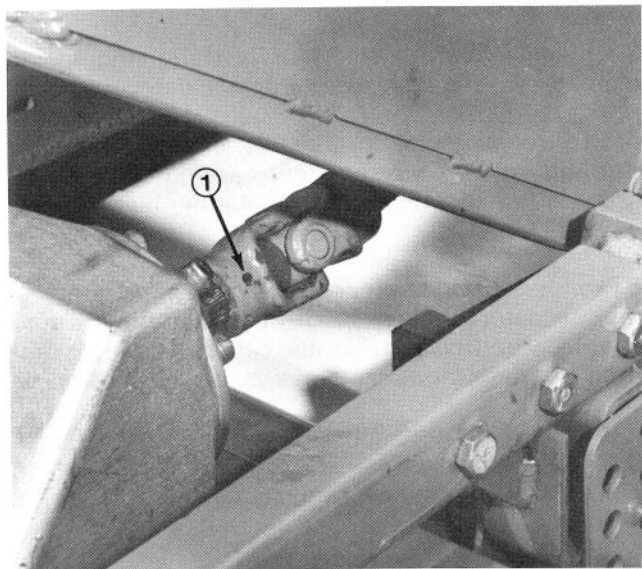

Figure 13
3. Lower cutting unit, remove pins from height-of-cut brackets (4).
4. Drive roll pin out of yoke and input shaft of gear box (Fig. 13). Slide yoke off the input shaft. If traction unit will be used without the cutting unit, remove the PTO shaft from the traction unit; refer to PTO Shaft Removal, page 11.